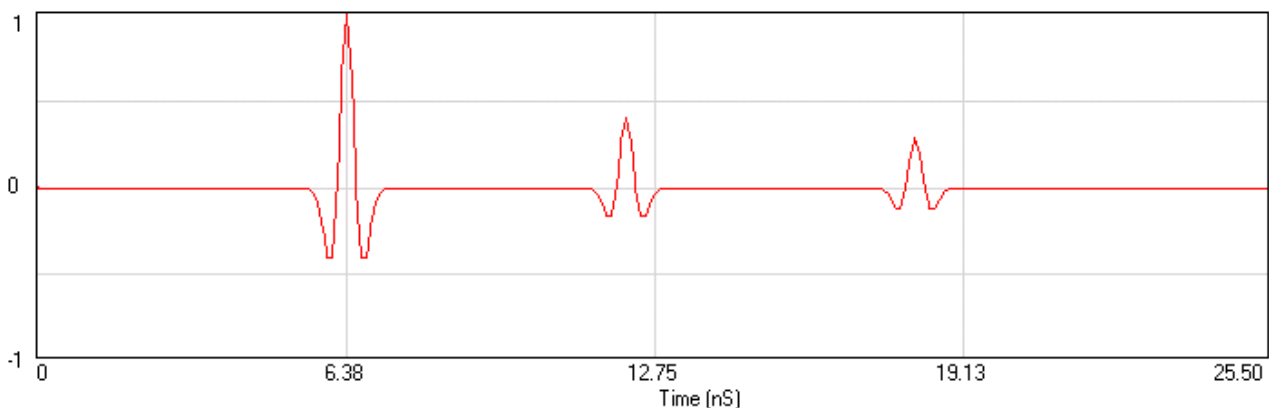

Fig. 8 Simulation of a microwave antenna penetrating layers with low conductivity
3. Press the simulate button and a trace like in figure 8 should appear.